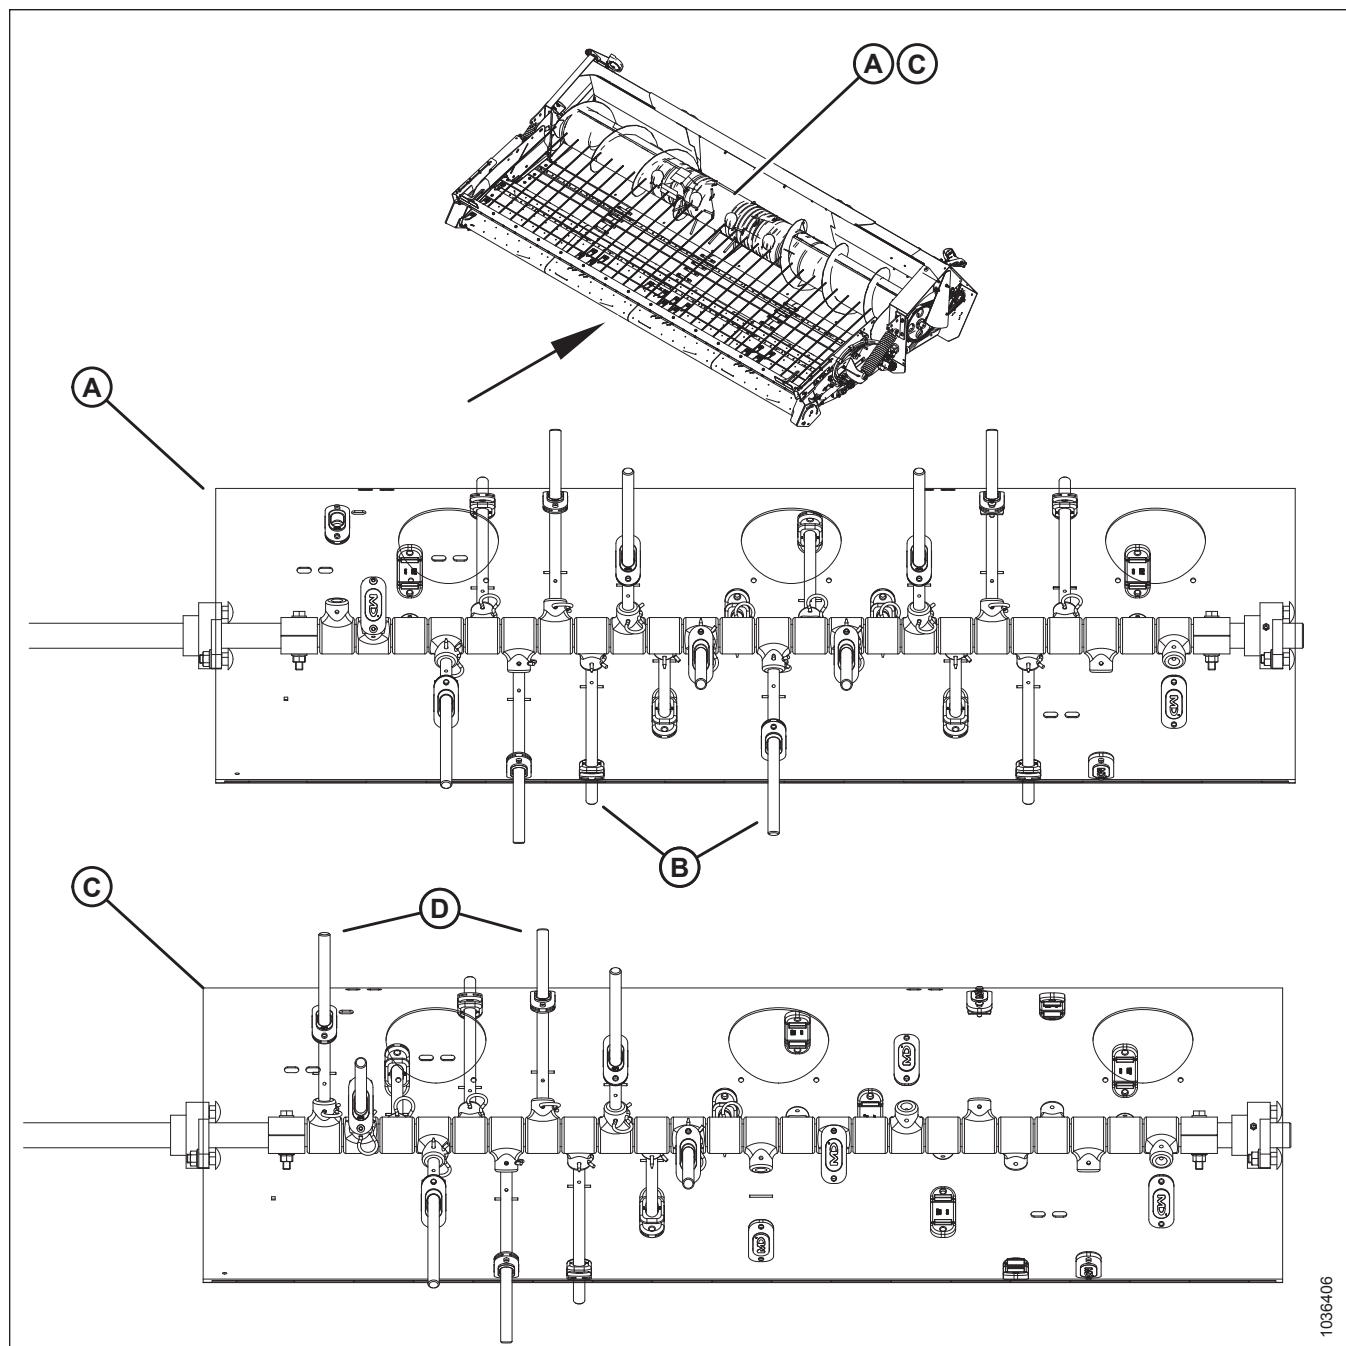

Figure 4.65: Auger Finger Installation Locations
6. Repeat Step 2, page 56 to Step 5, page 56 for the remaining locations. For an illustration of the locations, refer to Figure 4.65, page 55.
10. Repeat Step 7, page 56 to Step 9, page 56 for the remaining fingers. For an illustration of the locations, refer to Figure 4.65, page 55.